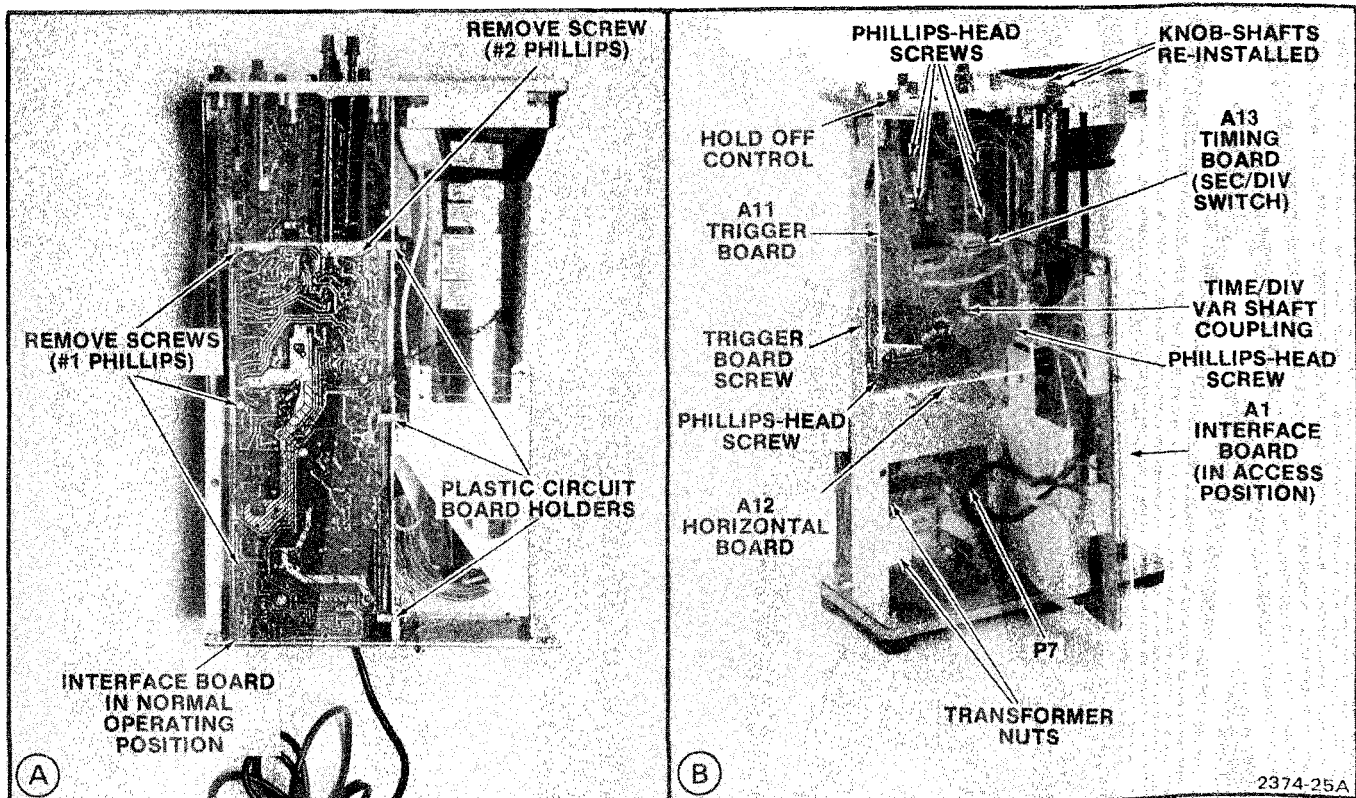

Figure 5-9. Interface, Trigger Switch, Horizontal, and Timing (SEC/DIV switch) assemblies removal.
2. Remove the two nuts that secure the power transformer to the support bracket that attaches to the chassis bracket. These nuts are accessible from the top of the 442 near the outside edge of the A1 Interface board (opposite side from the Power Supply board). See Figure 5-9.
2. Remove the Phillips-head screw that secures the Trigger board to the side chassis member (see Figure 5-9).
3. Remove the six Phillips-head screws that secure the Horizontal board to the 442 chassis (see Figure 5-9).